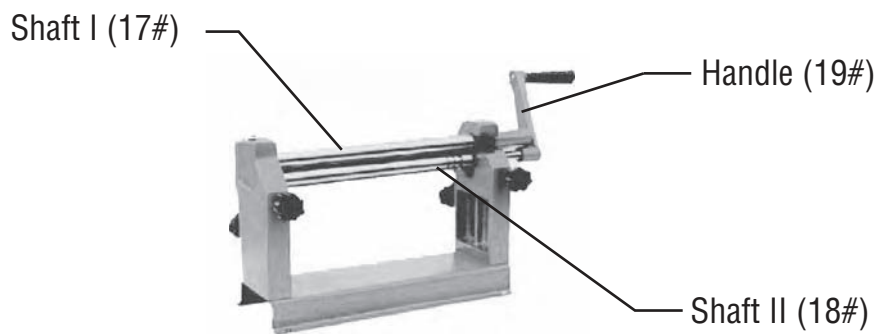

Figure 5
7. To form wires, select the smallest groove that you can use and put the edge of that wire on the groove of Shaft II (18#). Other operations are identical to sheet metal forming . **See Figure 5.**